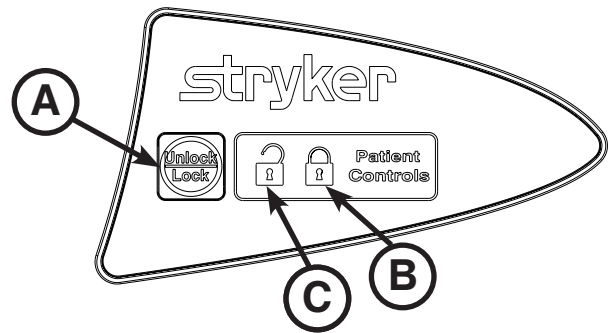

Figure 19: Patient Control Lockout
To lock the siderail patient controls, press the **Lock/Unlock (A)** button as shown in Figure 19. The lock icon (B) is illuminated amber while the patient controls are locked. The foot end nursing controls are not locked.
To unlock the siderail patient controls, press the **Lock/Unlock (A)** button as shown in Figure 19. The unlock icon (C) is illuminated green when the patient controls are unlocked.